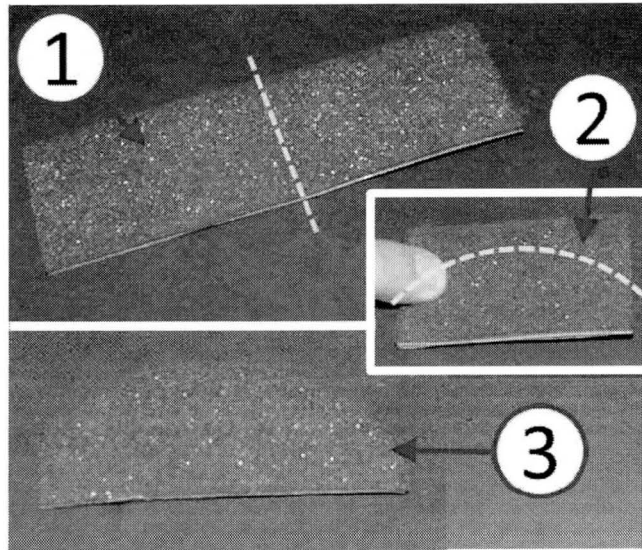

Fig. 2 Cut Foam Piece
3. Cut the foam piece in half (1). Trim one half of the foam piece (2) to match the contour (3) of the upper window run channel corner (Fig. 2).